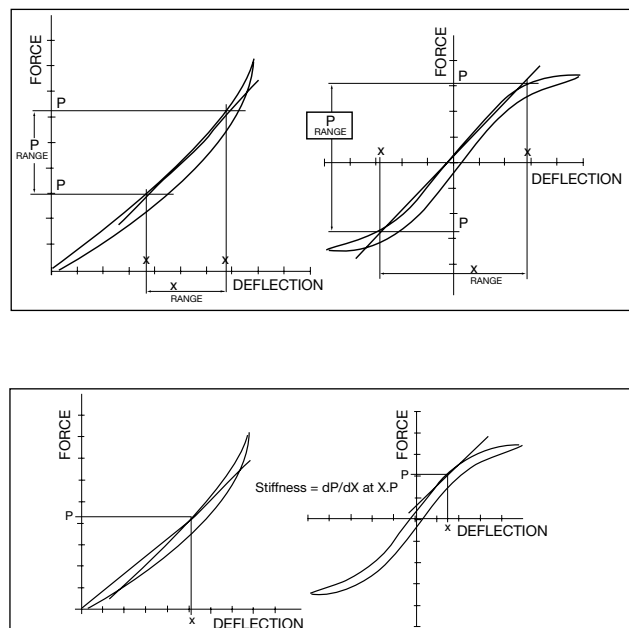

Fig. 7.
The stiffness of a spring is a measure of applied force (P) against a resulting Deflection (X). Measurements taken at a continuous feed rate (usually in the order of 1mm/sec velocity) provide static (or pseudo static) characteristic. The curves in fig. 7 show alternative methods of determining stiffness.